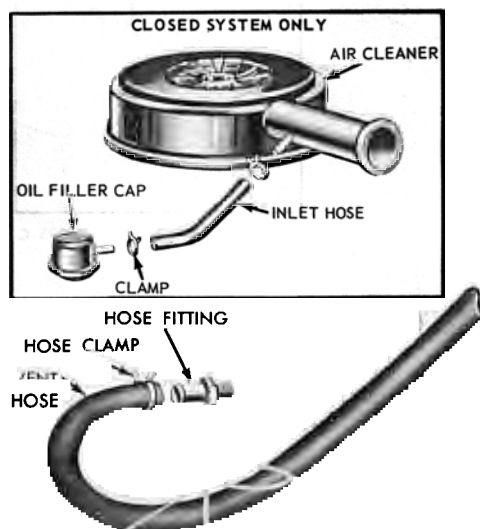

FIG. 15—Crankcase Vent System (Six)
3. Grasp the crankcase vent hose near the rocker arm cover grommet (Fig. 15) and pull to remove the regulator valve from the rocker arm cover.